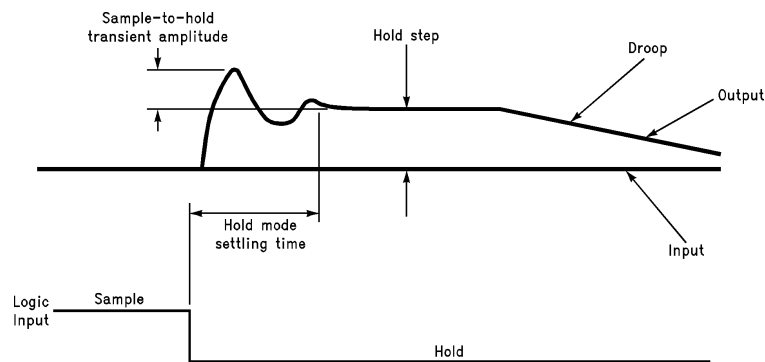

FIGURE 4. Sources of Error in Hold Mode and during the Sample-to-Hold Transition
**Hold Step**, also known as **pedestal** and **sample-to-hold offset**, is the voltage step that appears at the output due to the sample-to-hold transition (Figure 4). It is caused by a transfer of charge to the hold capacitor due to the opening of the switch. The hold step can be determined from the charge transfer by